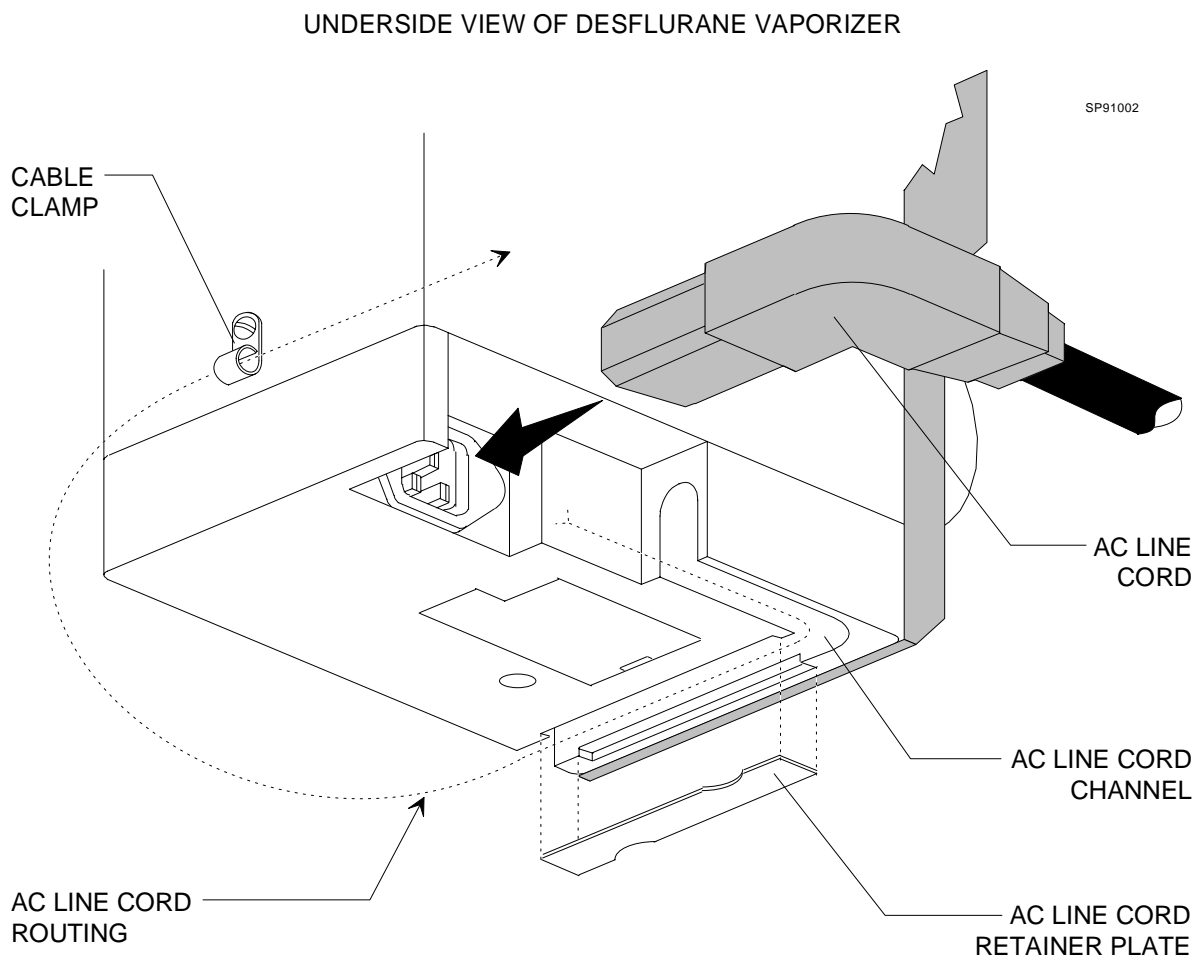

Figure 3: DESFLURANE VAPORIZER AC LINE CORD INSTALLATION
15. Remove the AC line cord retainer plate from the bottom of the vaporizer. Insert the AC line cord firmly into the socket of the vaporizer and route the cord through the channel as indicated in Figure 3.